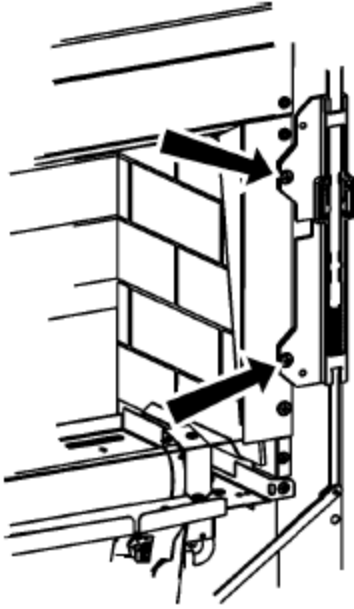

Figure 39. Slider mechanism removal
3. Detach the slide unit by removing two screws securing it to the convection box flange (See figure 39).